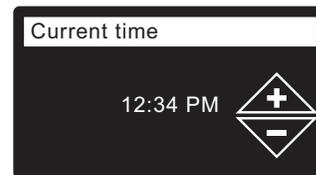

FIG. 22
- CURRENT TIME** Press the DOWN (▼) or UP (▲) buttons to set the current time (See Figure 22). Hold the button down to rapidly advance. Be sure that AM or PM is correct. If the system units were set to metric in Step 17, the clock will be in 24-hour format.